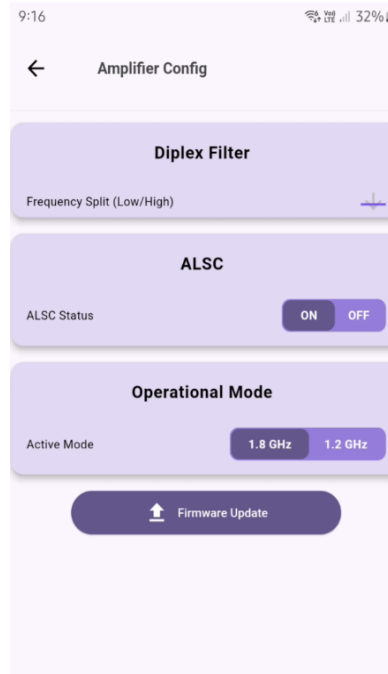

Figure A- 8: Amplifier Info Details
4. Diplex Filter – Select the new split from the frequency split drop down menu, see Figure A-8.